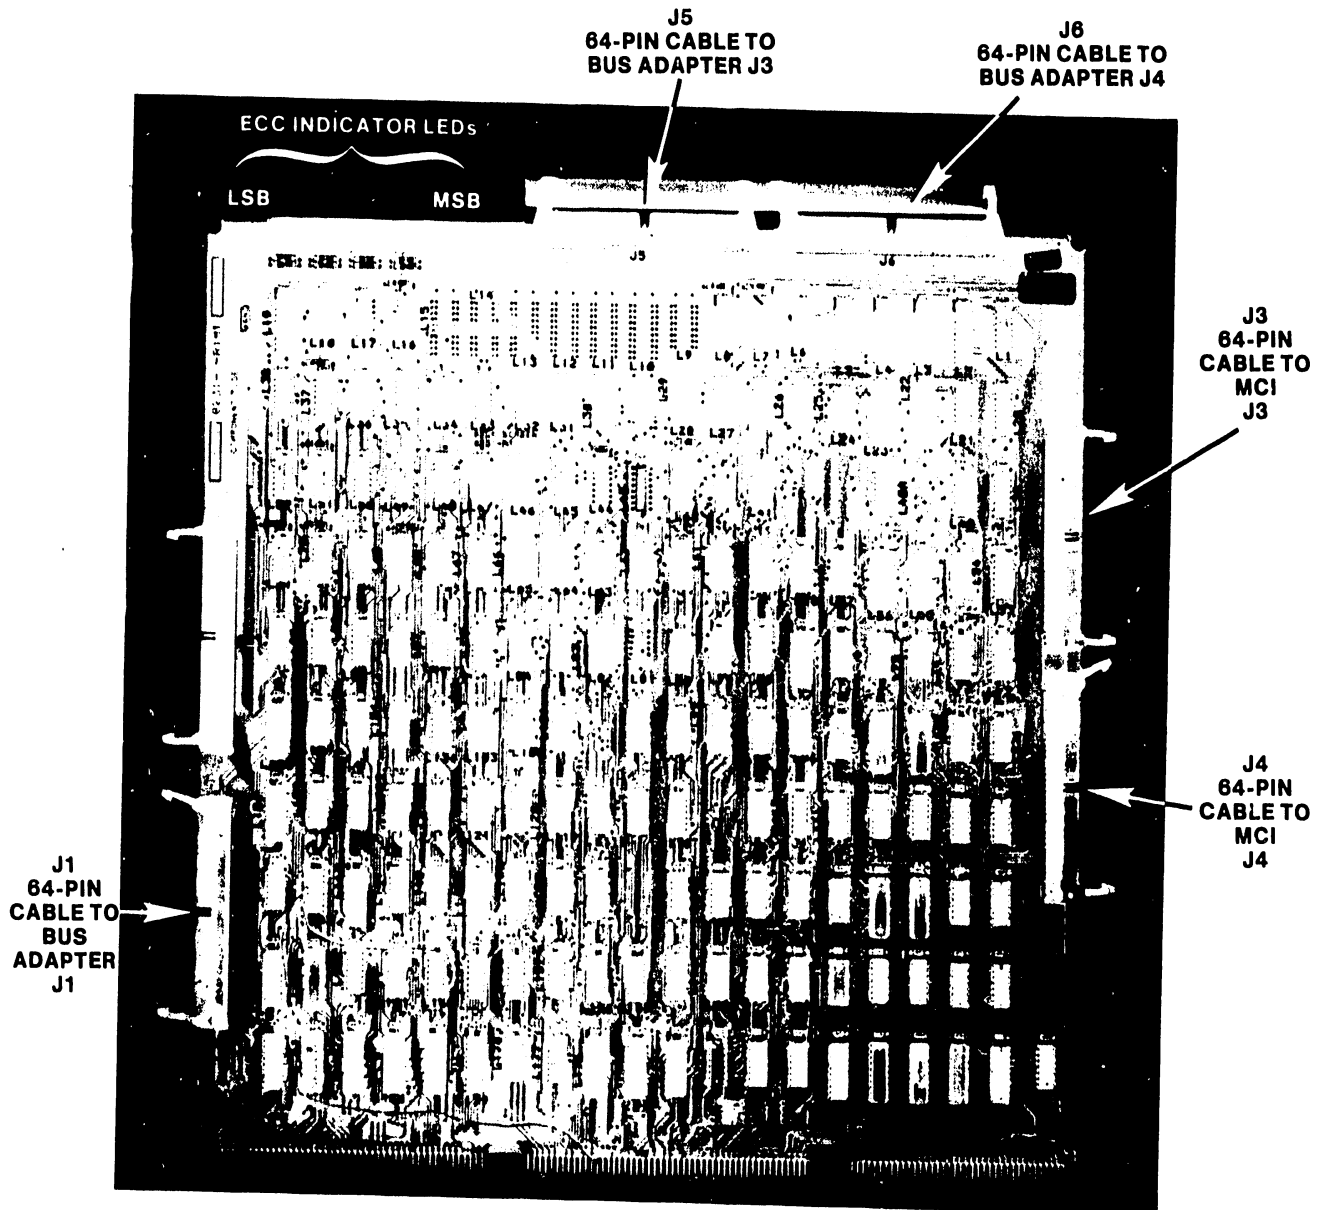

Figure 5-14. 210-8231 Memory Controller II Board
1. If the system has a Memory Controller II board (figure 5-14) in Motherboard slot #5, lower the fan assembly as described in paragraph 5.3.5.22. Remove the two Phillips screws securing the hinged cover over the fan safety screen inside the cabinet. Raise the cover, remove the screen, and turn the vertically mounted air flow baffle to the right. This allows access to the connectors on the rear of the circuit boards.